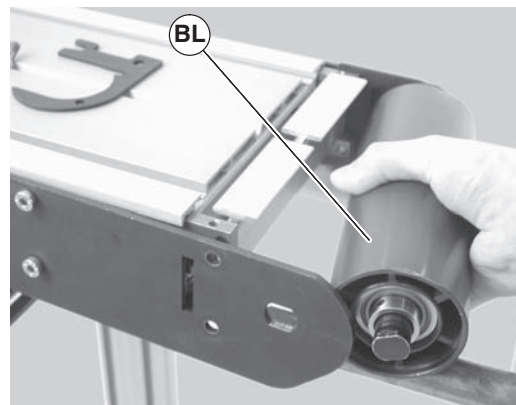

Figure 56
4. Slide the idler pulley assembly (Figure 56, item BL) out of the headplate on the opposite side.